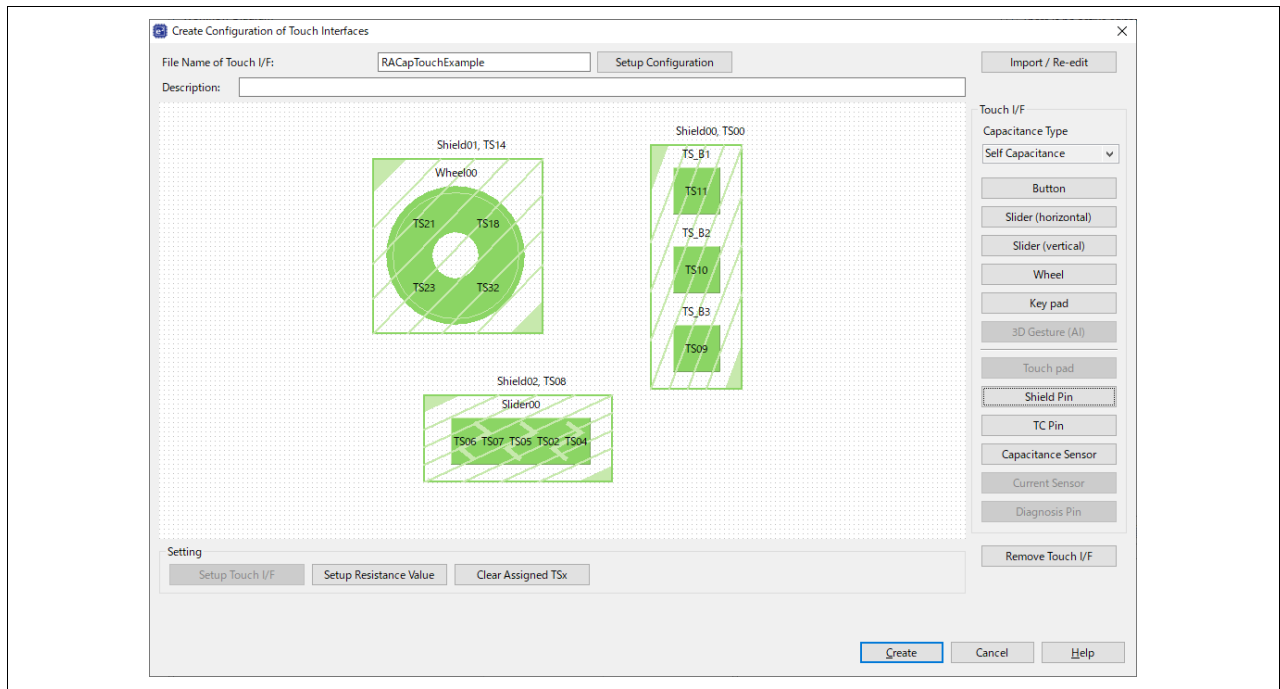

Figure 17. Complete New Touch Interface
16. This completes the addition of the Touch interface like shown below **Figure 17**.